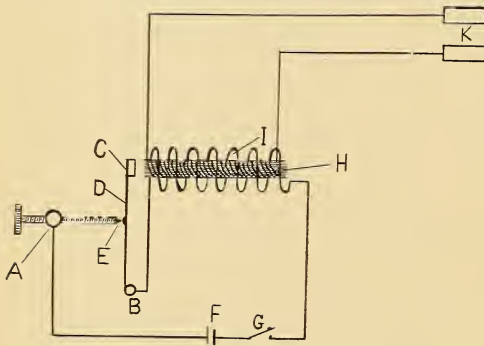
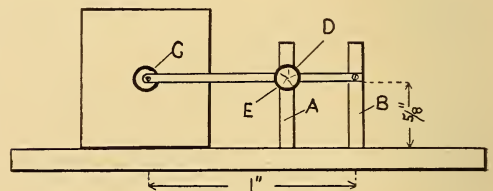

FIG. 1.
FIG. 2.
the plan in Fig. 1. Here we have a view of the coil with the primary and secondary shown. When the key at (G) is closed the battery current flows around the core (H), through the two layers of primary wire. In flowing around this core the current changes it into a state of magnetism, and it will in this state attract iron objects such as tacks, etc. This fact is taken advantage of and a small iron disk (C) is pivoted right behind the core by a small brass spring (D) which is screwed fast to a binding post (B).
For the actual construction, the parts given below are required. A brass binding post shown at (A), Fig. 1 is required. This is one inch in height with holes threaded through the center $\frac{5}{8}$ -inch from the bottom. The soft iron disk (C) may be either round or square and $\frac{1}{4}$ -inch in diameter $\frac{3}{16}$ -inch thick. This disk is soldered or screwed to a
strip of thin spring brass $\frac{1}{8}$ -inch wide and one inch long. Through the opposite end of the strip a hole is drilled and the strip is screwed to the post (B) at the screw hole $\frac{5}{8}$ -inch from the bottom. A small piece of the platinum wire is hammered flat and soldered in the middle of the brass spring, this is shown at (E), Fig. 1. Through the binding post, a large thumb screw is run. In the end of this screw is placed a small platinum contact which touches the platinum on the brass spring. The vibrator is now ready to be mounted which is done according to the plan as given in Fig. 2.